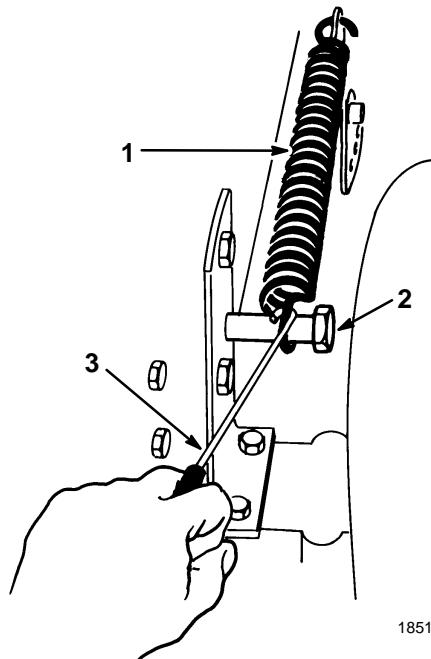

Figure 32
4. Remove the height-of-cut lift assist spring from the retaining bolt (Fig. 32), using the spring tool provided with the machine. The spring is between the frame and the right rear wheel.